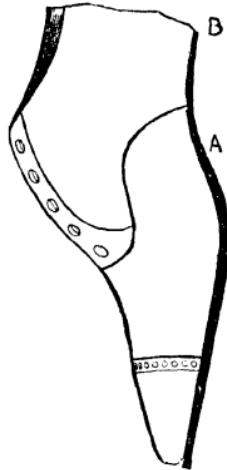
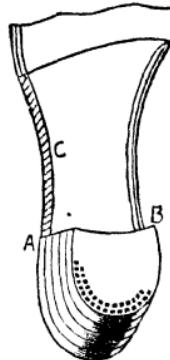
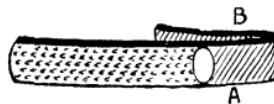

Fig. 137.—Paring Waist and Buffing Edge.
Fig. 138.—Peening Waist and Breaking Heel Corners.
Fig. 140.
up, as Fig. 137, the edge of the sole is now knifed-up with the knife in the right hand, the point only between the thumb and finger, as shown by **B** (Fig. 95, page 90), commencing at **A** (Fig. 137), and going round to the joint on the other side. Only little shavings are taken off, for the sole has been already shaped ; all that now remains is to make the edge quite square.
To prepare for knifing-up the waist, the corners **A** and **B** (Fig. 138) must be well knocked down by means of a corner-beater or welt-beater, which is made by heating an old file, turning it back for about a third of the way, and while hot beating it up square, at **A** and **B**
(Fig. 139), on the lap-iron, with a hammer. Another form for a corner-beater is shown at Fig. 140. When it is the shape required, heat it again, and put it into cold water, and when dry, brighten it a little with emery cloth and temper it by reheating till the brightened part turns blue.
The corners are knocked down by putting a corner-beater (Fig. 140), right into the corner of the heel and waist, at **A** or **B**, and hammering it well down until a decided corner is made to the heel. While this is being done, the boot is held in the position shown by Fig. 138, by the stirrup, firm upon the knees. Then hammer each side of the waist with the peen end of the waist or cramp hammer ; this will knock the edge of the waist over, to cover the stitch, and also make it lie closer to the upper. This process will leave marks at **C** ; but a second row of taps, made with the peen of the hammer held so that these lines shall cross the others, will make the edge more even, and also very firm at the side of the stitches. The waist can now be hammered along each
The top of the top piece of the heel can be well filed with the file side of the rasp. The boot is held between the knees, in the position of Fig. 138, or reversed with the toe towards you ; it must be held very firmly, with the
Sand-papering is the next process, and a troublesome one it may prove if the sand-paper is not soft, even, and used in the proper place. To do the sand-papering of the sole, the boot can be held in the position of Fig. 137 for the last half, and in the reverse direction for the first half. A sheet of sand paper costs a penny, and folded uniformly it will make sixteen handy pieces. Double one of these rough side out, and hold it between the thumb and finger, as the buffing-knife in Fig. 145, except that the three fingers and the forefinger are closed in the palm of the hand, holding the paper between the thumb and the knuckle of the forefinger, and so far from the edge as to leave the paper under the thumb only. Supposing **D** to be the sand-paper, the folded edge should be at **B**, and being used upon the forepart, this edge must be nearest to the upper; but it must not touch it, nor must the hollowness in the edge be in the least interfered with.
When the edge of the waist was peened as at c (Fig. 138), the process ought to have knocked the welt very close to the upper. With the boot in the position shown in Fig. 137, hold the knife upright, and, commencing at the heel, and coming down to where the sole begins to get thick (A), cut away the edge of this welt in the waist. It will be only a very narrow strip, and as it was skived very thin, it will not be hard to cut. You must not cut very near the stitches, and take care not to slit the upper. With the boot in the reverse position, the same process is done on the other side in the same way,
only this is done so that the sole c (Fig. 138) shall itself form the edge of the waist, which will then be solid.